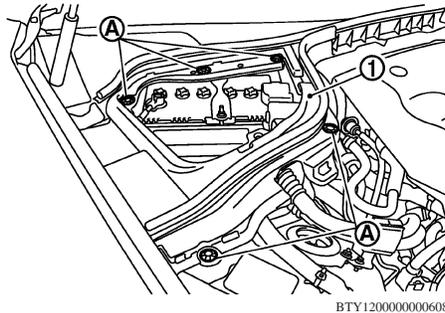

Fig. 1 Righthand hoodledge cover removal
3. Remove clips (A), and remove righthand hoodledge cover (1), Fig. 1.